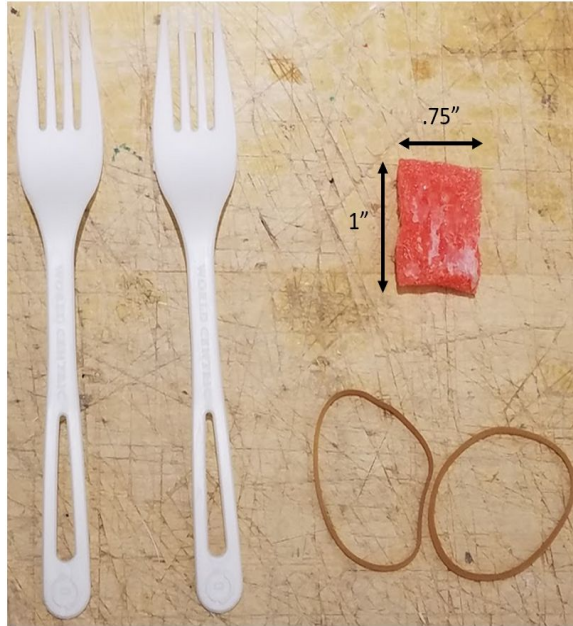

Figure 10: Materials needed to make fork attachment for one of the legs
3. To make the fork attachments for the legs, assemble all the necessary material, as seen in Fig. 10. Materials include two forks, two rubber bands, and one 1.6" x .75" x .31" piece of foam.